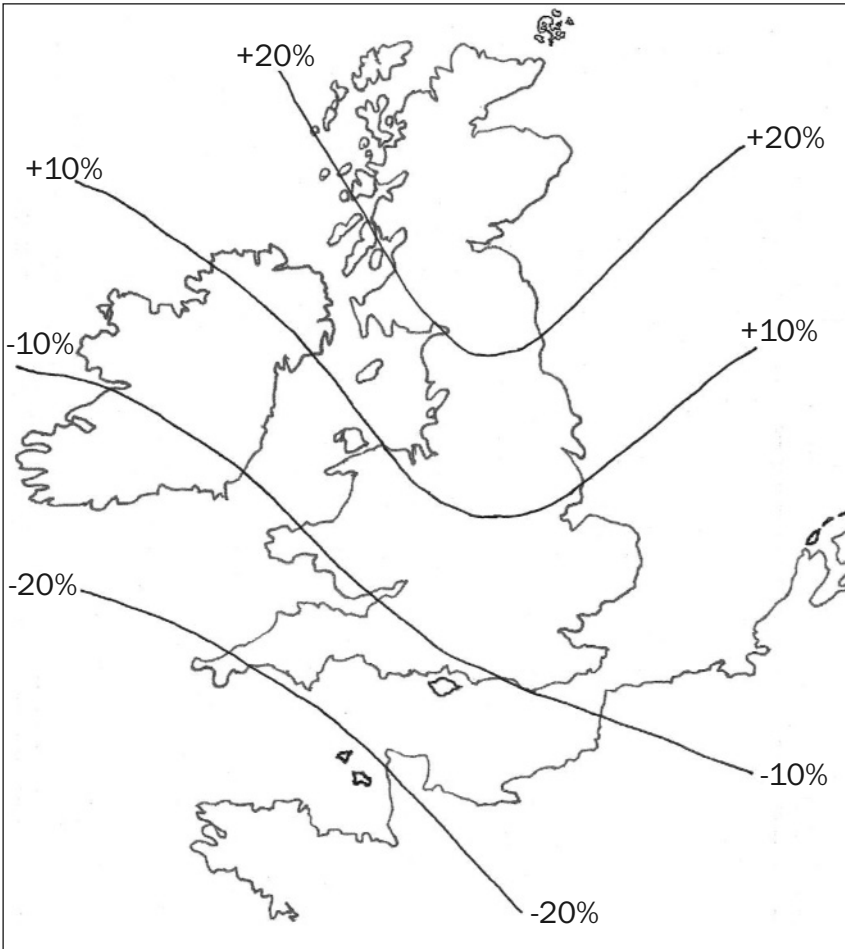

fig 89: effect of location on available solar radiation
Select the geographical location for the collector installation from the map in fig 89 and adjust the initial surface area accordingly. For information on locations outside of Great Britain, see *resources*, page 263.
- adjust for location (see fig 89)